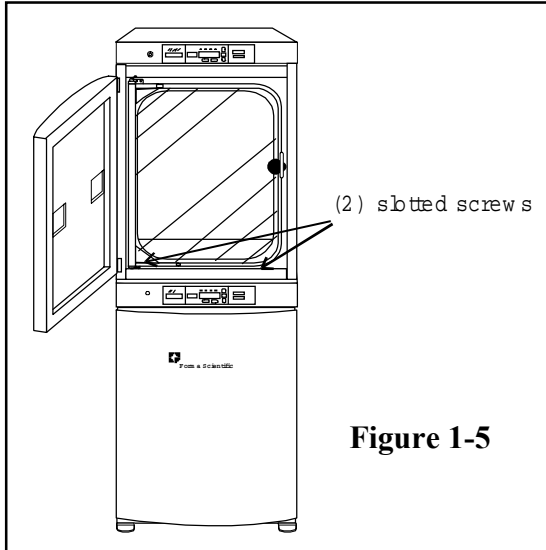

Figure 1-5
4. Align the sides of the *top* unit with the *bottom* unit and slide the *top* unit forward until the notches in the base of the *top* unit align with the (2) slotted screws in the top of the *bottom* unit. Refer to Figure 1-5.